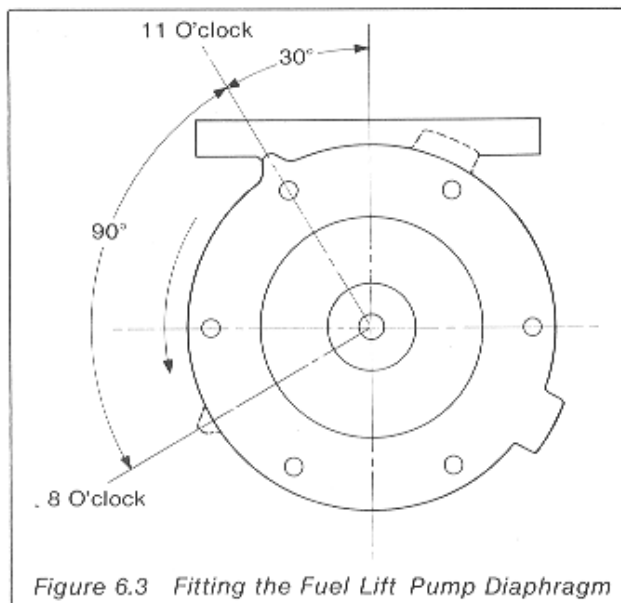

Figure 6.3 Fitting the Fuel Lift Pump Diaphragm
- (1) Fit (where applicable) the suction and delivery valves.
- (2) With reference to Figure 6.3 assemble the diaphragm and pull rod by setting the locating tab on the periphery of the diaphragm at the 11 o'clock position. Press down on the diaphragm against the spring pressure and turn counter-clockwise through 90°. This allows the pull rod to engage the fork in the linkage. The tab should now be in the 8 o'clock position.
- (3) Assemble the two halves of the pump ensuring that they are in their original positions as marked (Paragraph 6.16(3)).
- (4) Fit the gauze filter.
- (5) Fit the domed cover and joint ring and tighten the setscrew just sufficiently to make a fuel tight joint.